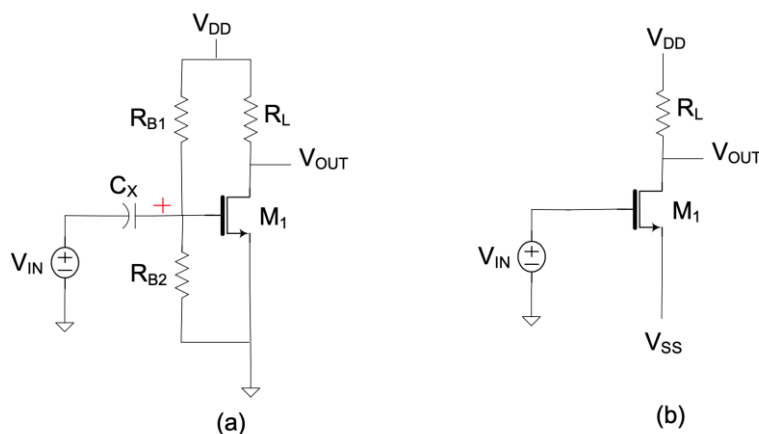

Figure 2: Common-Source Amplifiers
- Measure β of the transistor using the circuit of Fig. 2. In this measurement be sure that the transistor Q_1 is operation in the forward active region. When operating in the forward active region, $I_C = \beta I_B$ so β can be obtained by taking the ratio of the I_C to I_B . (A convenient value for the supply voltages is $V_{DD}=12V$). Since the measurements are to be made with the oscilloscope, the currents can be obtained by taking the difference of the two voltages across the appropriate resistors and dividing by the value of the resistor.